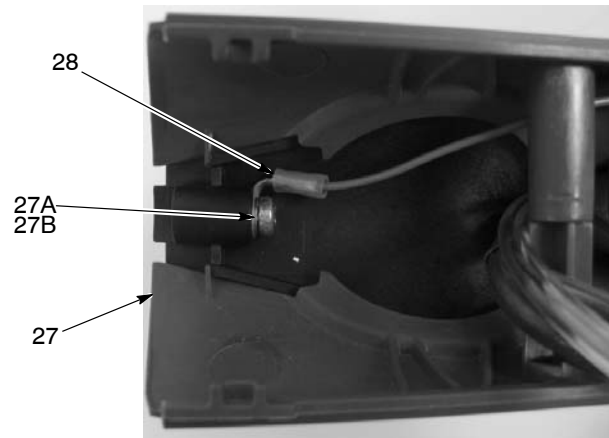

Figure 5-8 Ground Terminal Connection to Ground Pad (Top View)
12. See Figure 5-8. Remove the M3 x 6 screw and M3 lockwasher (27A, 27B) and disconnect the ring-tong ground terminal (part of cable, 28) from the ground pad (27).
8. See Figure 5-8. Connect the cable ground terminal to the inside boss of the ground pad (27) with the lockwasher and screw (27A, 27B).